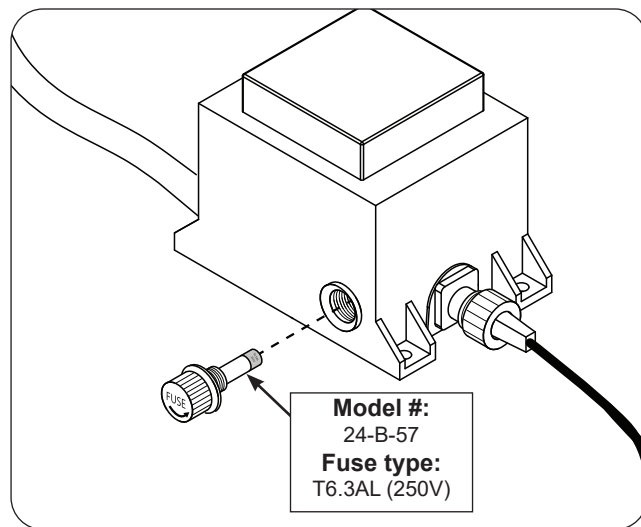

Fig. 39-1 Replace fuse
3. Locate the fuse holder on the power supply box (see Fig. 39-1).